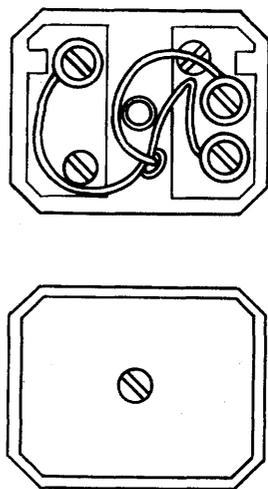

Figure 3. GTE AE D-15959-A Connecting Block.
2.03 The GTE AE D-15959-A block is a three-conductor device modified from an earlier two-conductor design which had provided two screws per terminal. In the later version (Figure 3), each of three screws is used to terminate a separate conductor. Terminals are designated L1 and L2. The block is molded of black phenolic and arranged with a tubular metal stud in the center which serves to retain a ring-band strain relief and is tapped to accept the single captive screw used to retain the matching cover. The design is not suitable for any other type of strain relief and has no provision for intertwining the station wire conductors to secure them in place. The cover is slotted at the top and bottom for cord and station wire entry, and a wire entry hole is provided in the base of the block. This block was provided with the GTE AE 40-series telephone sets.